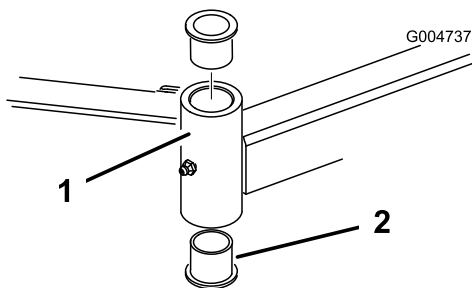

Figure 96
4. Insert a pin punch into the top or bottom of the mounting tube and drive the bushing out of the tube (Figure 96). Also drive the other bushing out of the tube. Clean the inside of the tubes to remove dirt.